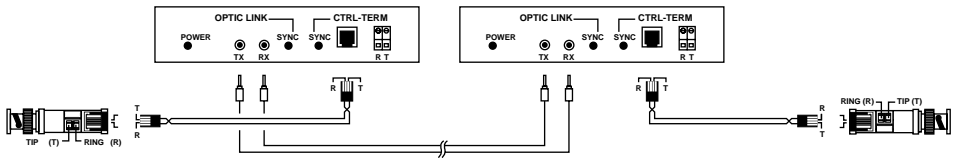

Figure 3-1. Installing the 3270 Repeater-Fiber.
- Remove the fiberoptic covers from the 3270 Repeater Fiber and connect the ST fiber connectors as indicated in **Figure 3-1**, ensuring that TX goes to TX and RX goes to RX. Take care not to damage or get dust on the exposed ends of the fibers.